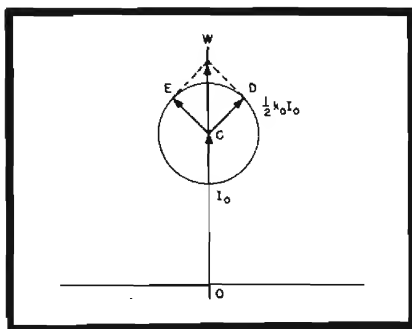

Figure 1
In Figure 1 is shown a phasor diagram of equation (8):  $OC$  is equal to the peak carrier amplitude,  $I_0$ ;  $CD$  and  $CE$  are the two sideband amplitudes which are equal to  $\frac{1}{2} k_a I_0$ ; and